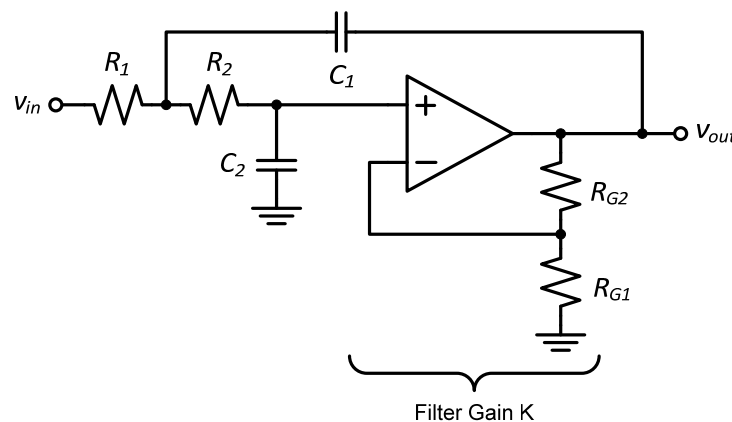

Figure 3. Sallen-Key filter used to implement each filter stage.
- a) Design the first filter stage, *Filter Stage 1*, using the Sallen-Key topology shown in Figure 3. Refer to the Sallen & Key paper to choose value for the components.
- b) Design the second filter stage, *Filter Stage 2*, again using the Sallen-Key topology shown in Figure 3. Choose values for K , R_1 , R_2 , C_1 , C_2 for the second filter stage given your calculations for ω_n and d for the second filter stage from P2.1 a). Calculate the values for $\rho = R_1/R_2$ and $\gamma = C_2/C_1$ used for finding K . Once you have a value for K , choose resistor values for R_{G1} and R_{G2} from the available components to implement the gain K .